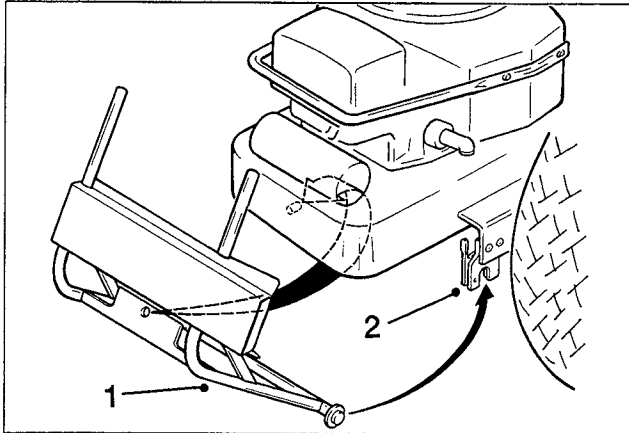

Figure 11
2. Find the pilot pin on the back end of the rider (in the center on the inside of the rider frame) and slide the hole in the center of the quick-attach bracket onto the pin (Fig. 11).
- Pull back on the quick-attach bracket until the bottom ends slide into the notches on the side of the rider frame (Fig. 11).